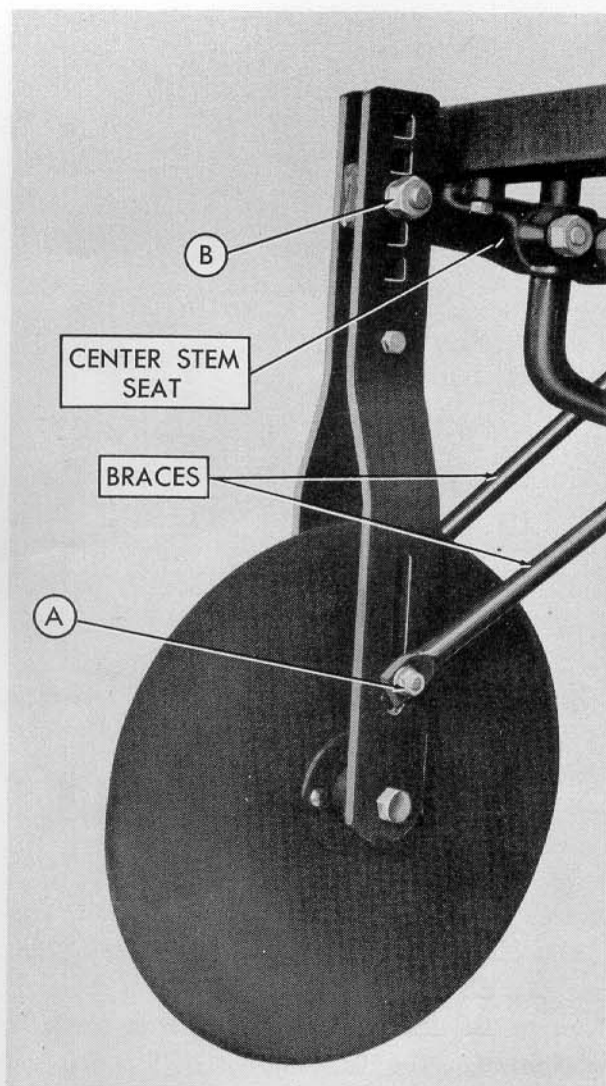

Figure 12
To adjust the depth of the fin, loosen the bolts (A), Figure 12, which attach the braces to the rolling fin supports. Remove the bolt (B) which attaches the fin supports to the main frame. Move fin supports up or down and replace bolt in the hole which will give the desired setting. Securely tighten all nuts.